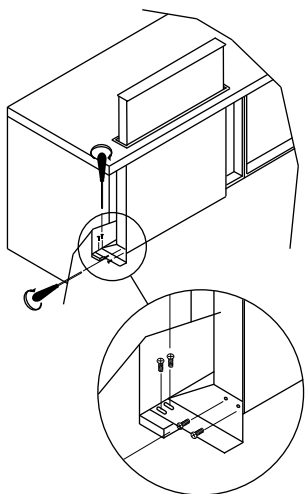

Fig 4
2. Fix the Mozart to the cupboard using the bracket provided (Fig 4).